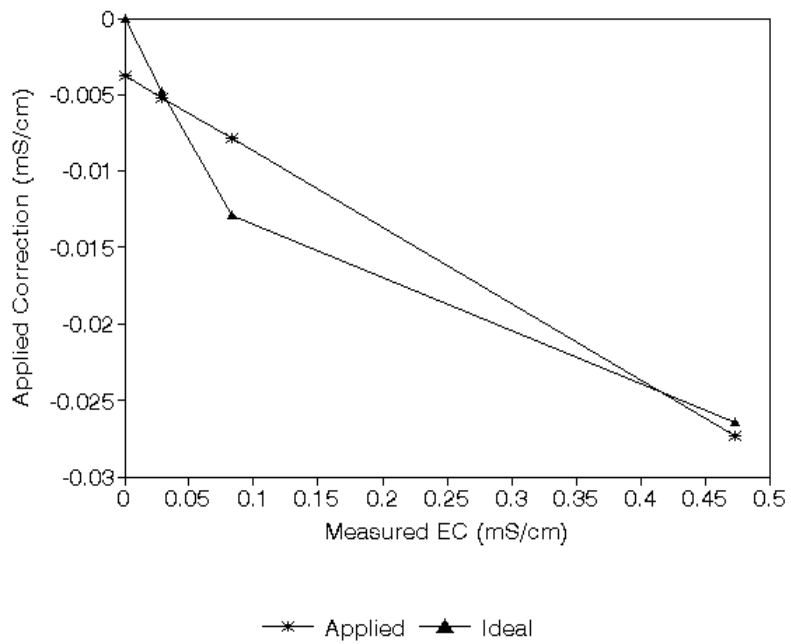

FIGURE 8.1-1. Plot of ideal and actual correction between 0 and 0.44 mS cm-1
**Correction of Ionization Errors:** Figures 8.1-1 and 8.1-2 show the amount of correction applied by the example program to compensate for ionization effects on the measurements. Also shown is an ideal correction. Factors were